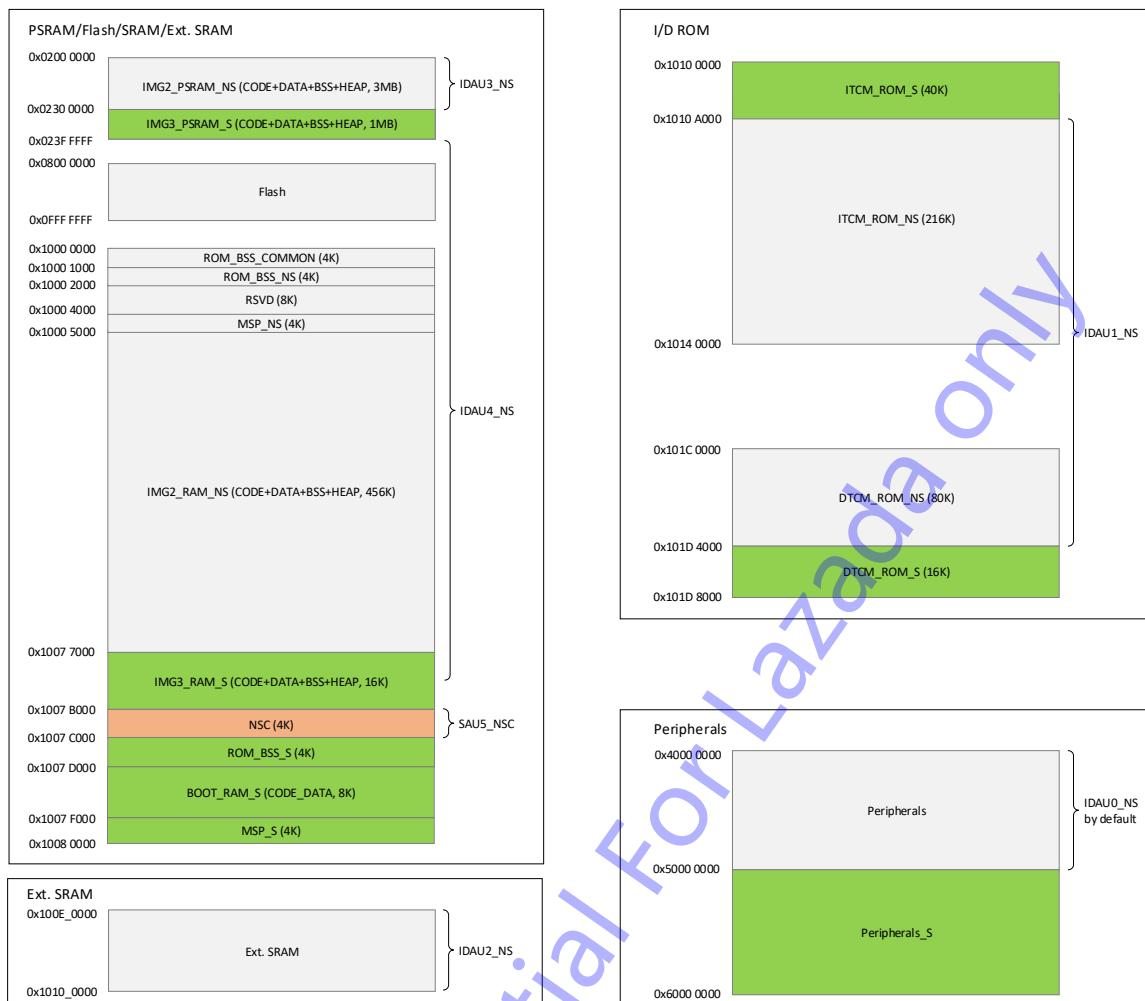

Fig 9-10 TrustZone layout
- When TrustZone is enabled, the default security setting in Ameba-D SDK is shown in Fig 9-10.